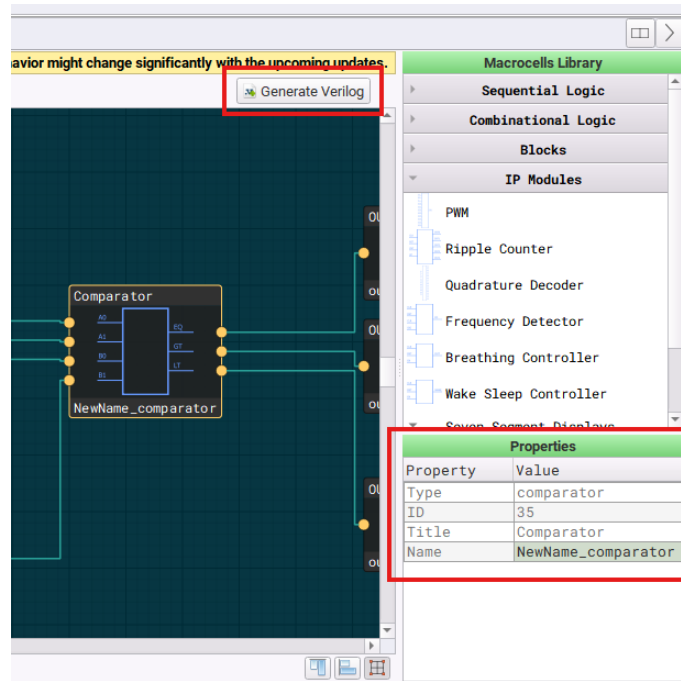

Figure 4. Macrocell Properties
- After the user has created the desired design, click on the *Generate Verilog* button on the right to automatically generate the Verilog code for the design created in Macrocell Editor (See Figure 4). The name of the generated Verilog code is by default *mcm\_generated.v* and it's listed under Custom Code section of the Control panel.